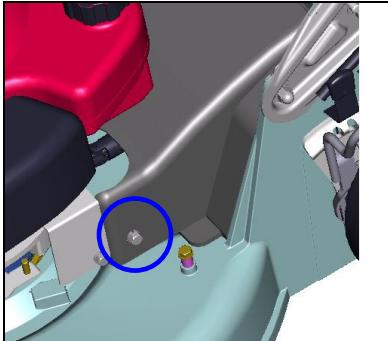

Fig. 19
1. Prepare the oil container. Remove the bolt and detach the transmission cover(fig. 19).
2. First, replace the mechanical transmission oil. Remove a Drain Plug(A, fig. 20), and uprear the body and drain the oil. Set the drain plug completely and pour the mechanical transmission oil "SAE90" or "API GL-5" 0.17 litters from oiling mouth(B, fig. 19). Then tighten the bolt.